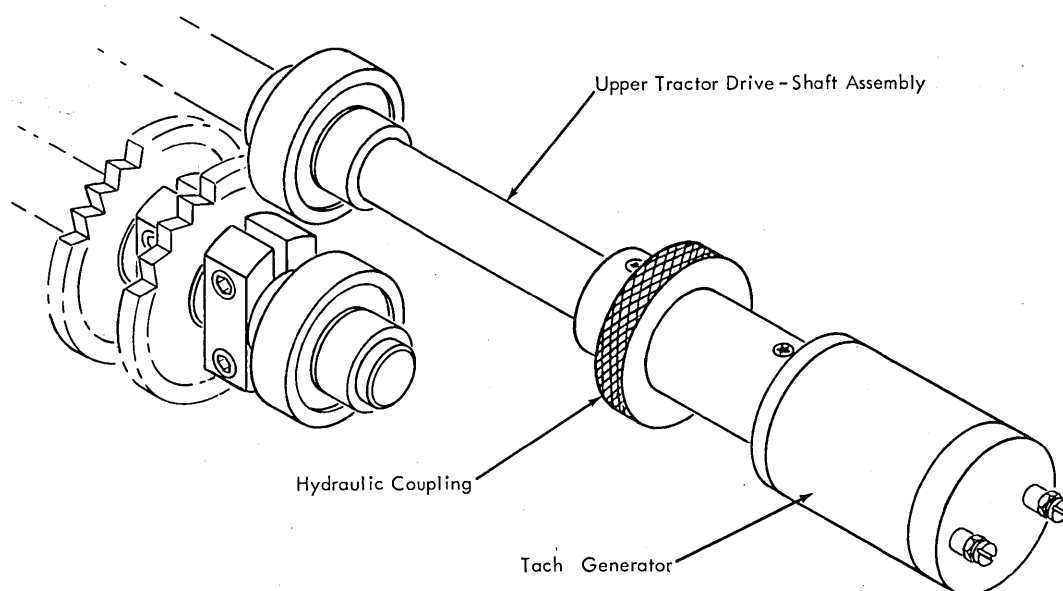

Figure 4-59. Tach Generator and Coupling
The tach generator (Figure 4-59) converts the mechanical motion of the carriage into an electrical output for scop-ing. This is an extremely accurate method of adjusting and analyzing the hydraulic unit.
2. Remove the paper-advance knob from the upper tractor drive shaft. Install the tach generator (part 450976) and coupling (part 451290) on the shaft as shown in Figure 4-59 and tighten the setscrew.